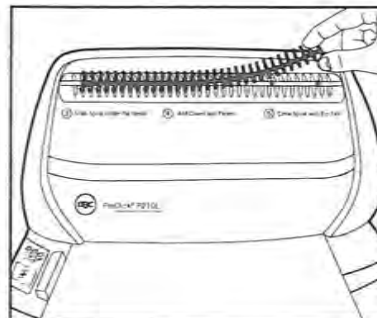

Figure 6
1. Secure a GBC ProClick spine under the hooks on top of the P110 or P210E with the open spine rings facing up. (see Figures 6 and 7)